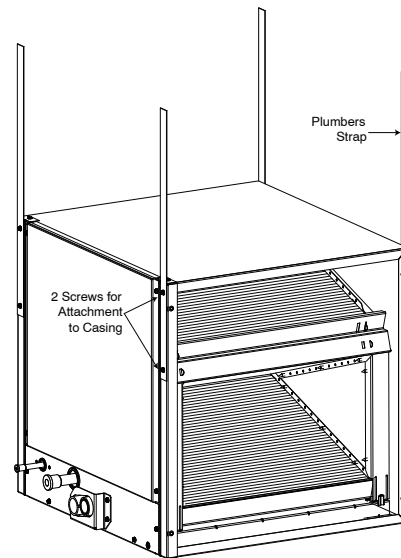

Fig. 7 - CNPHP Suspension with Plumbers Strap
2. Attach metal plumbers strap to four corners of coil casing (see Fig. 7).
2. Attach metal plumbers strap to four corners of coil casing. See Fig. 7.